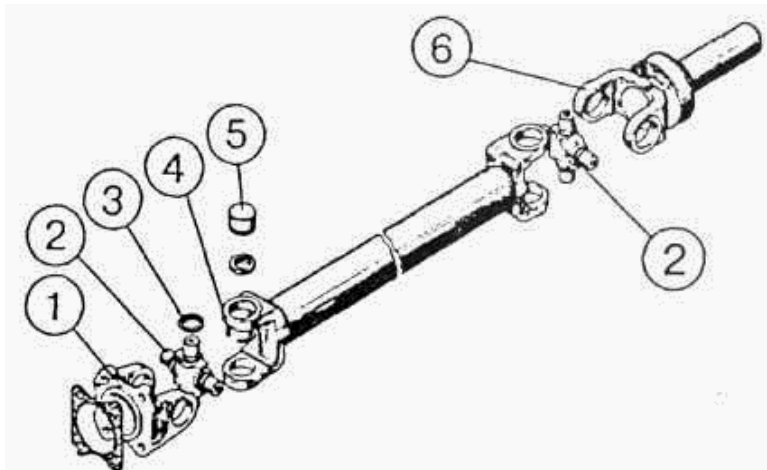

Figure 5.12
e) disassembly cardan shaft (Figure 5.12), to do this:
- 1) remove locking rings (4), avoiding their deformation;
- 3) disconnect flange (1) and sliding yoke 6;